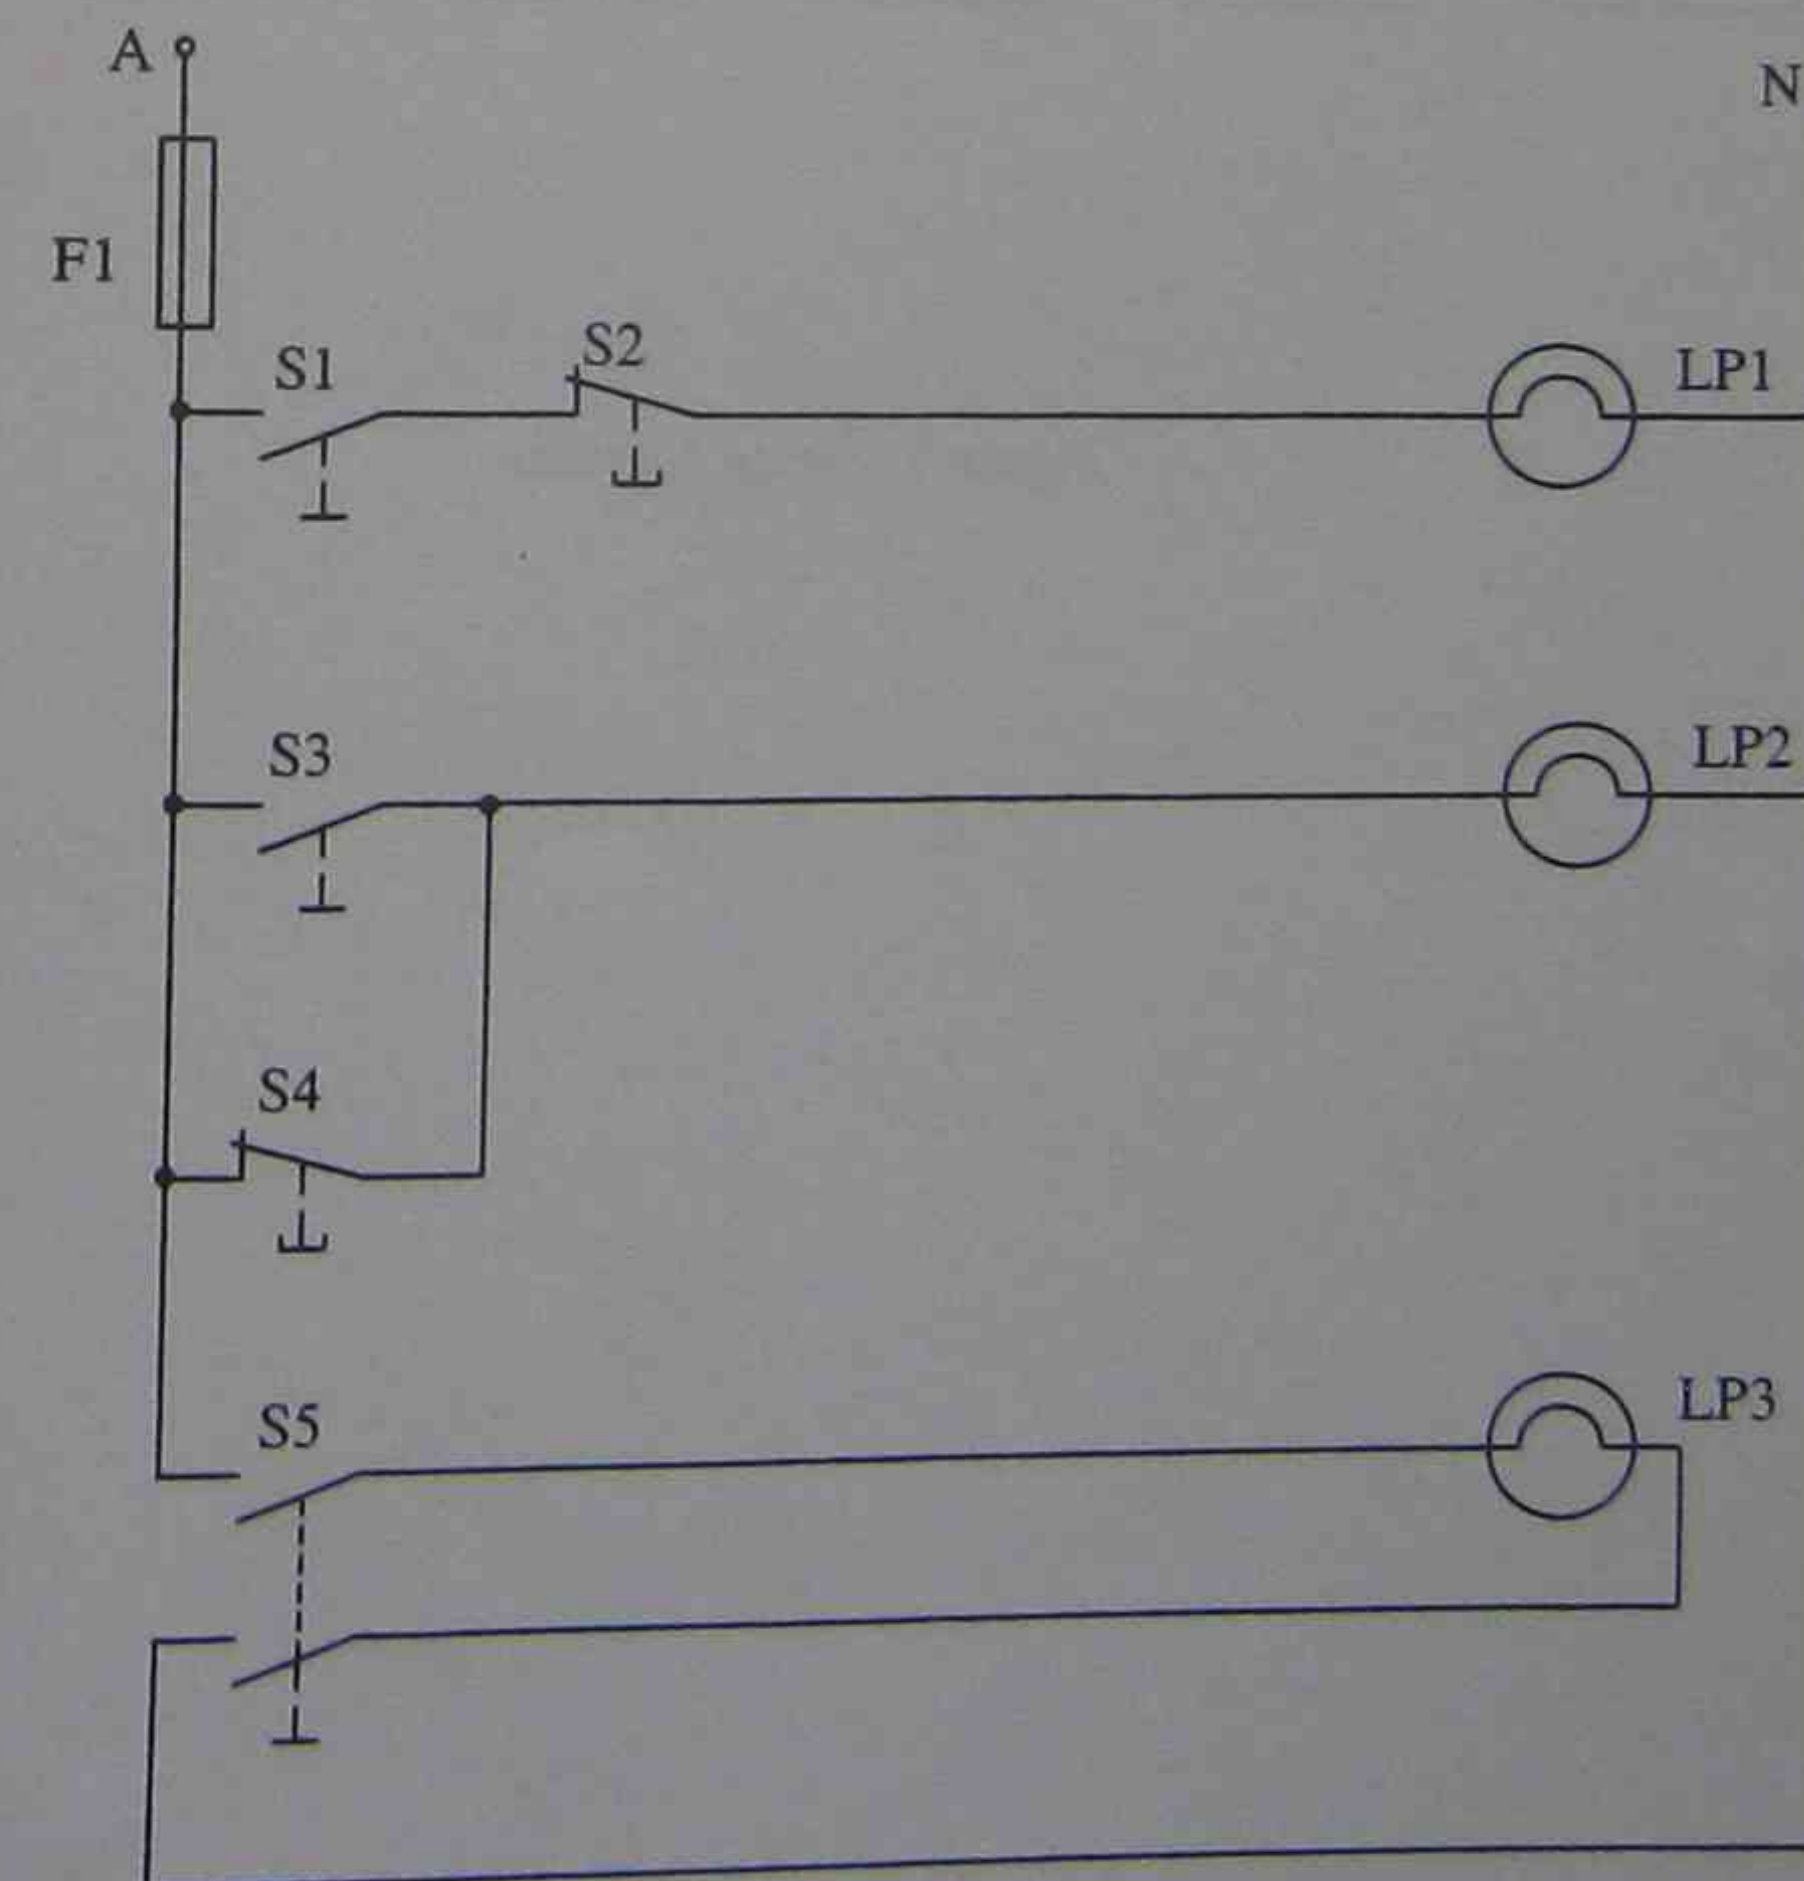
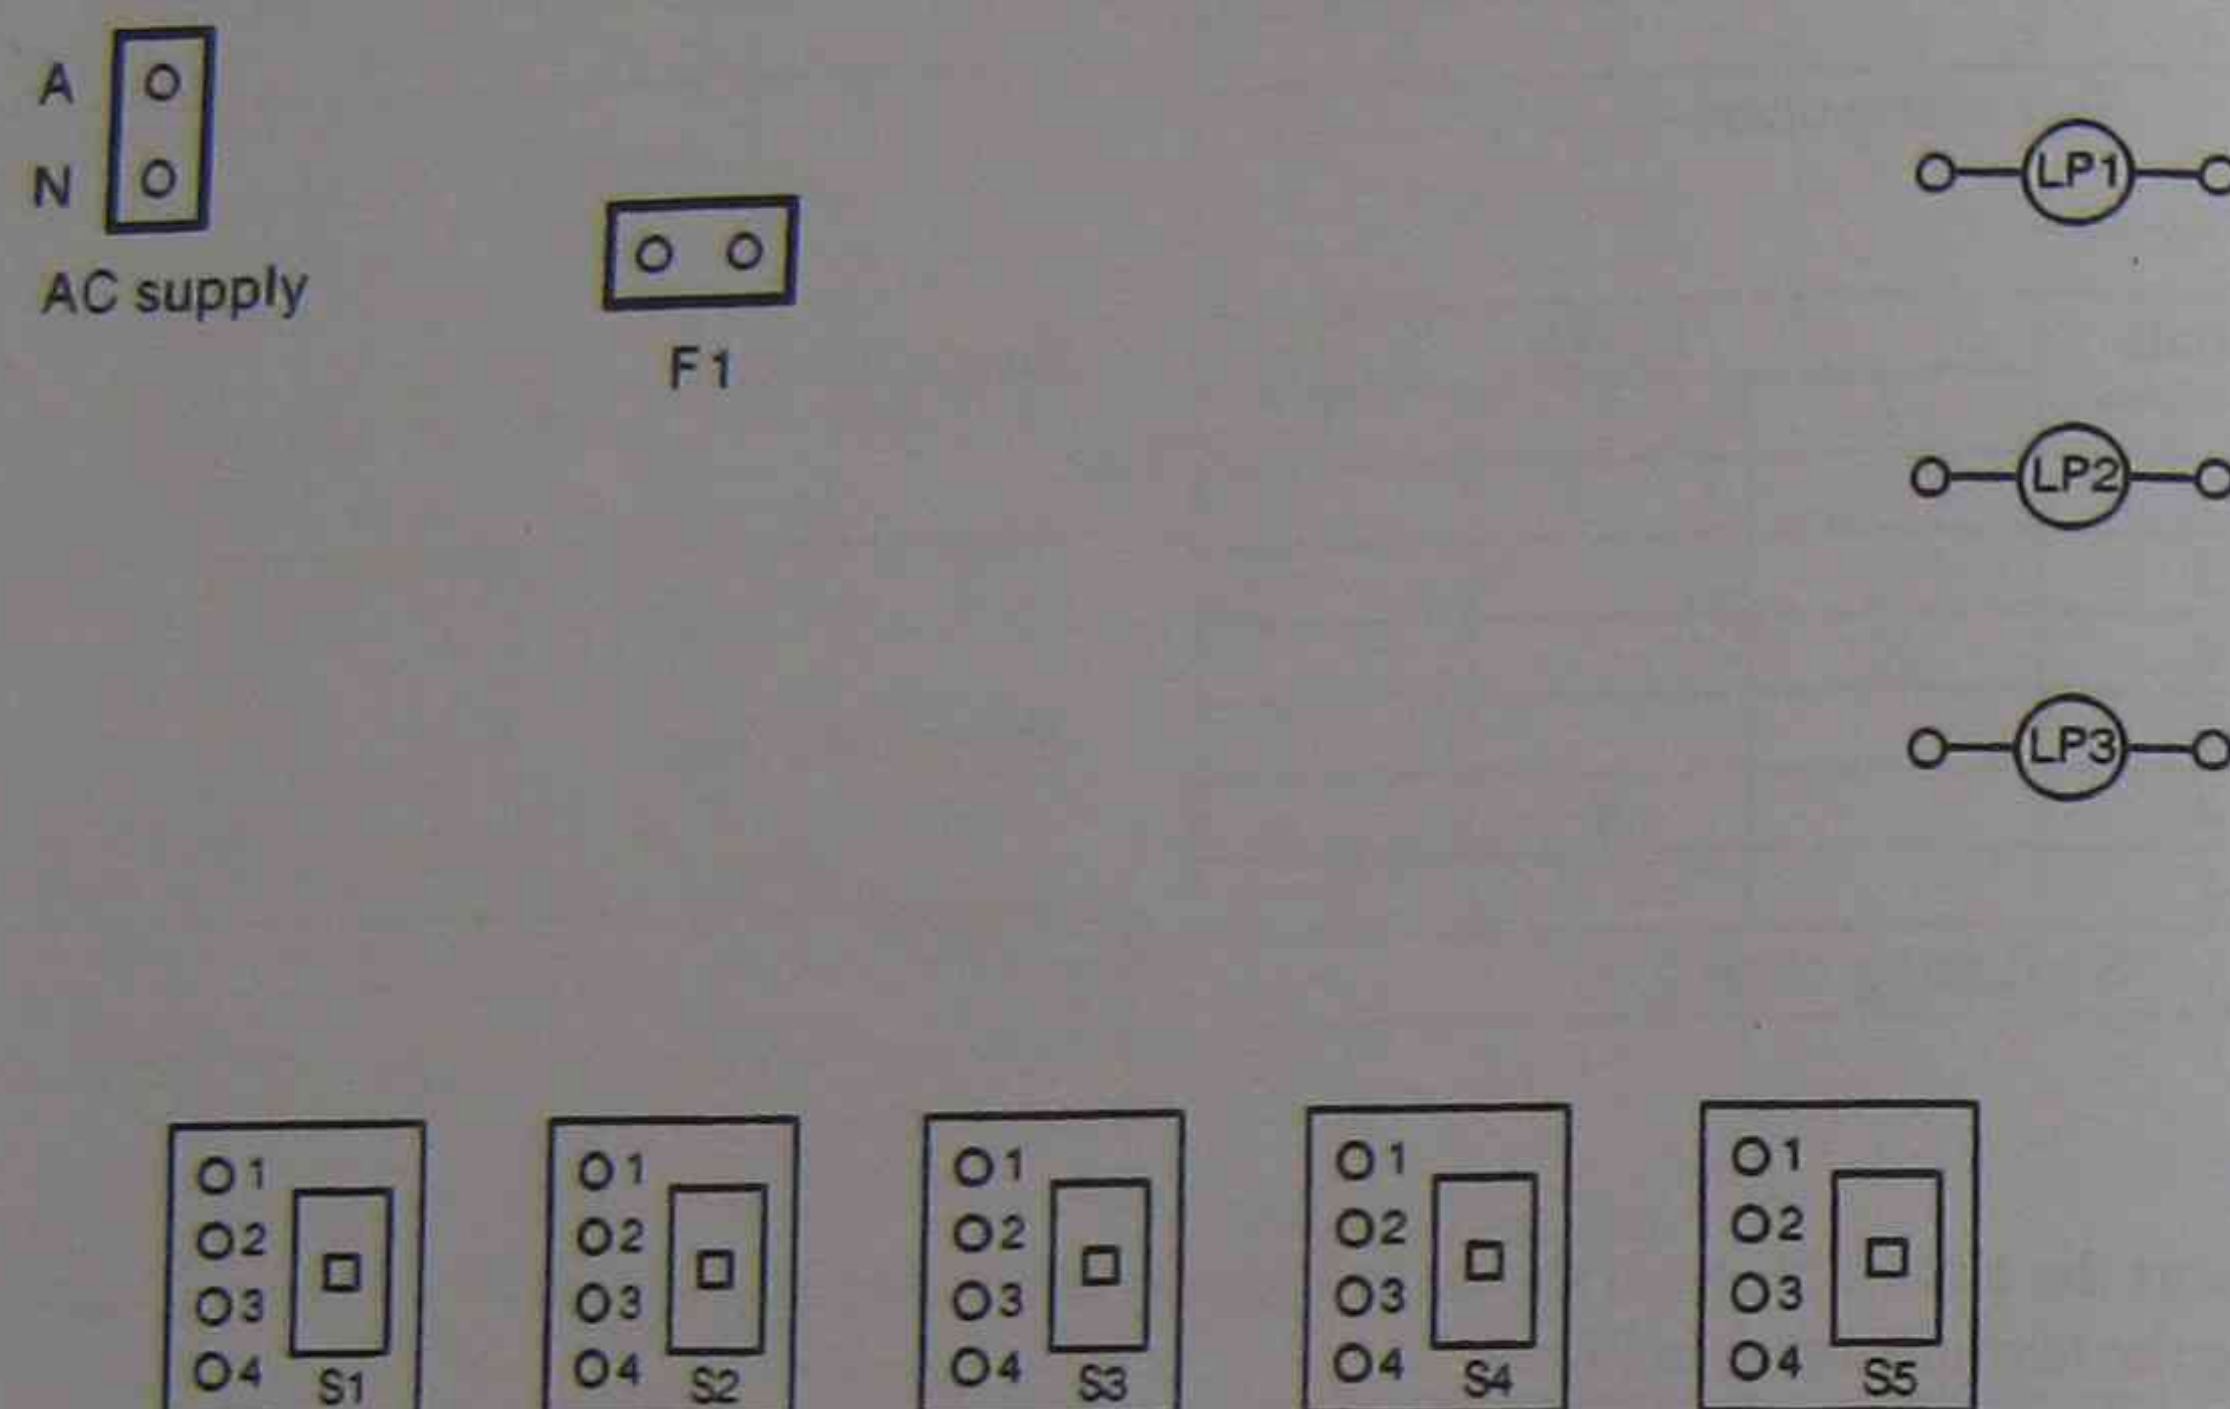

Figure 6 Circuit diagram – lighting control
Figure 7 Wiring diagram
2. Convert the circuit diagram shown in Figure 6 to a wiring diagram. Draw the wiring diagram using the layout shown in Figure 7.